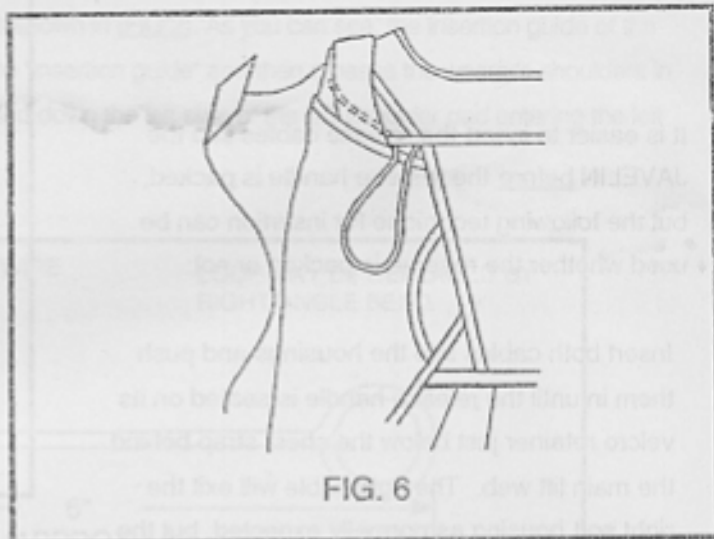

FIG. 6
2. Insert the cable into the opening without releasing the cable from the main riser. The cable should be inserted into the opening from the left side of the main riser. A suggested installation is shown in (FIG. 6).
Then reinsert the cable into the same opening, aiming it down toward the left ring junction as shown in (FIG. 6).